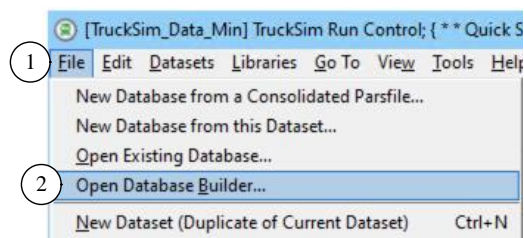

Figure 3. Use the File menu command Open Database Builder.
You can access the Database Builder any time after the initial installation of TruckSim. It can be viewed whenever the **Select Recent Database** window appears. The Database Builder can also be brought up directly from within TruckSim using the **File** menu (1) command **Open Database Builder** (2) (Figure 3).